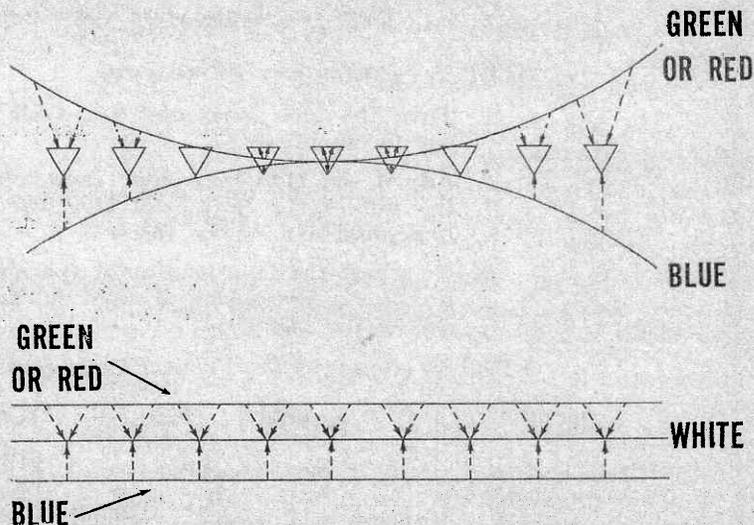

Figure 24—Dot motion due to adjustment of horizontal amplitude and phase controls
3. Adjust the green vertical parabola amplitude and phase controls to make the vertical green bar parallel or coincident with the associated red bar along the vertical axis of the raster. (IF STEP B, (1) was set up properly, the red and green vertical bars will be parallel and the red and green horizontal bars along the vertical axis of the raster will be equally spaced. If these conditions do not exist, STEP B, (1) and (3) should be repeated).
**STEP C—Setup of the Horizontal Convergence Controls** (See Figure 24).